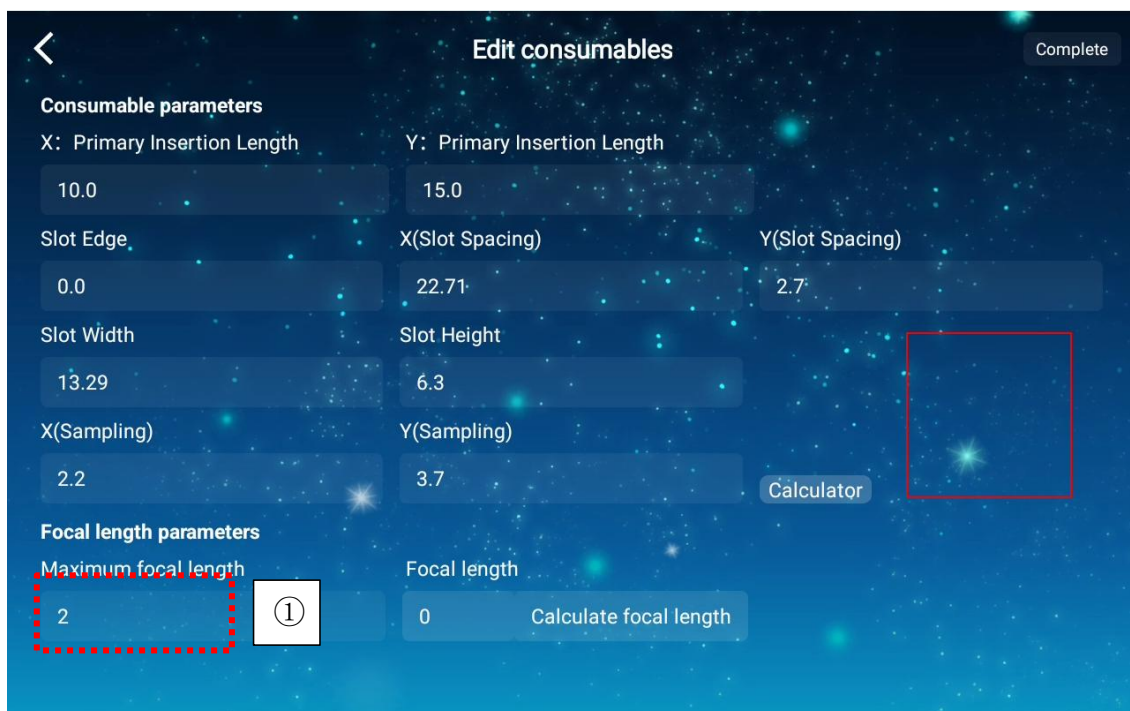
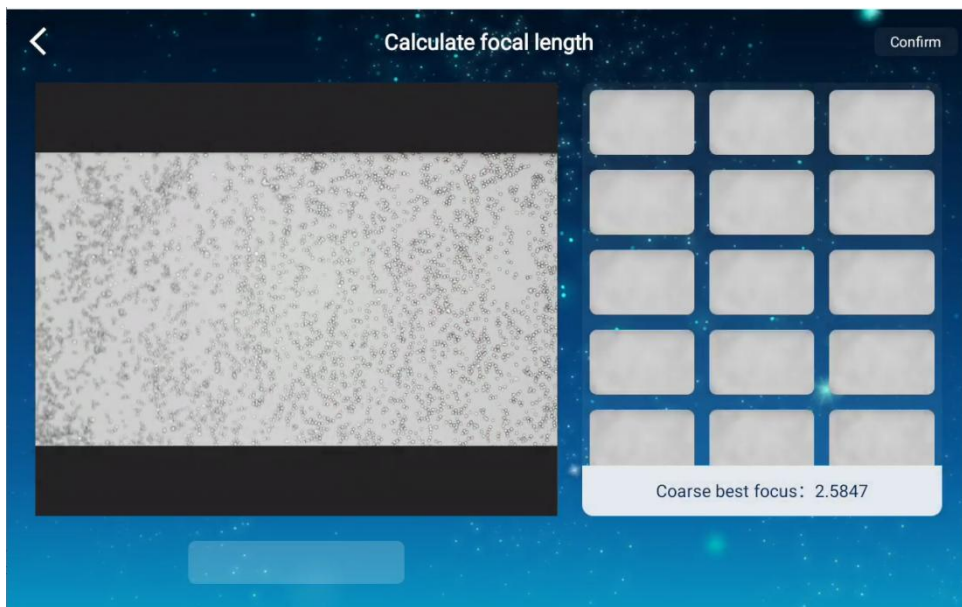

Fig. 2.72 Countstar® Mira HT maximum focal length values that can be entered at different magnifications
Fig. 2.73 Focus recalibration user interface: Step 1: coarse focusing
A re-calibration measurement of the focal length on a regular period will document the high stability of the focus system of the Countstar® Mira HT analyzer. The instrument's focus length is initially adjusted during manufacturing and recorded in the focal length settings of the device. To prove the focus system's suitability, beads with proprietary focus calibrations, supplied by Shanghai RuiYu Biotech, can be used to check the focal length. As an example, Images and analyzed results of the test on focal length are shown in **Fig. 2.72** and **Fig. 2.73**.
- The user needs to note the maximum focal length parameters as (shown in **Fig. 2.73** at the lower left①). The value of focal length is **2** by default. After insertion of the Countstar® chamber slide containing the Focus Calibration Beads 1 into the analyzer by pushing the chamber slide into the instrument through the port, until it has reached its designated position.